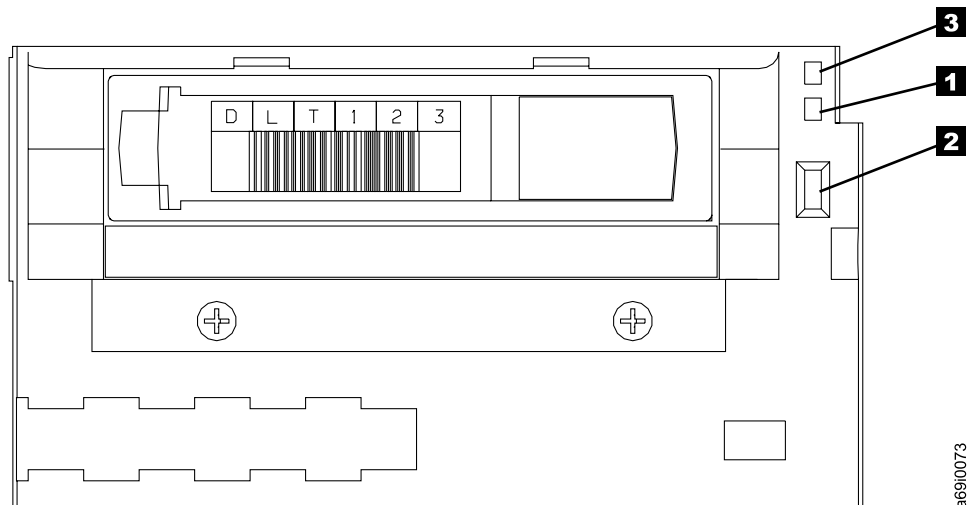

Figure 32. Removing a cartridge from a DLT Tape System
- If the green Operate Handle light (see **1** in Figure 32) is on, the drive is ready to be unloaded. Place your hand in front of the load compartment and press the unload button **2**. Keep your hand in place for 3 to 5 seconds and let the cartridge eject slowly so that the tape disengages properly from the threading mechanism. Remove the cartridge from the drive.